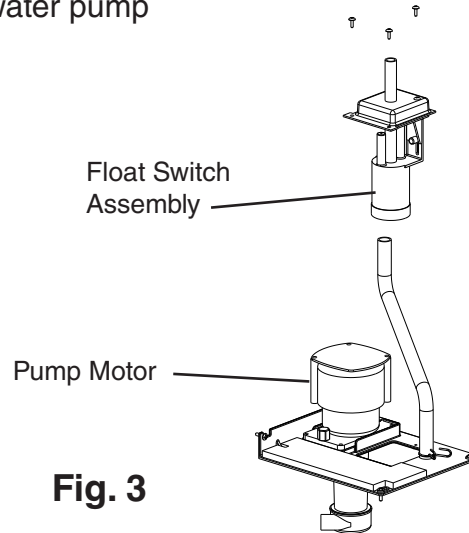

Fig. 3
- 3) Remove FS assembly from the water pump bracket. See Fig. 3.